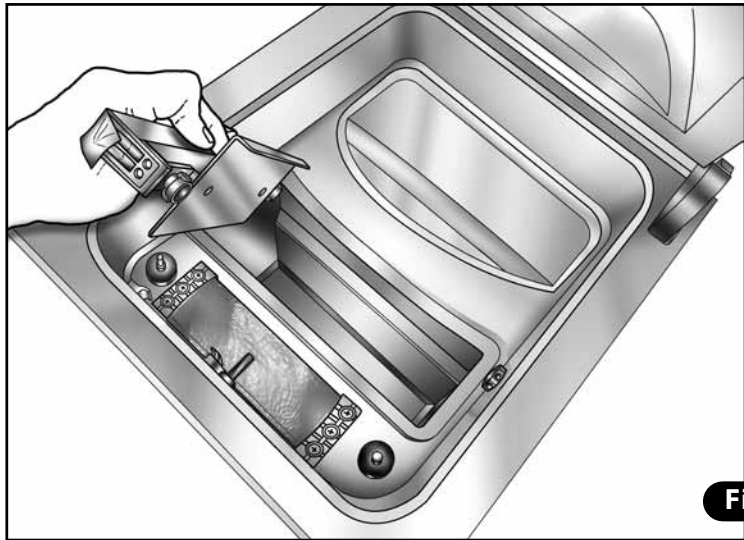

Fig. 2
2) Extract the under-bar bearing and put in the new one (Fig. 2).